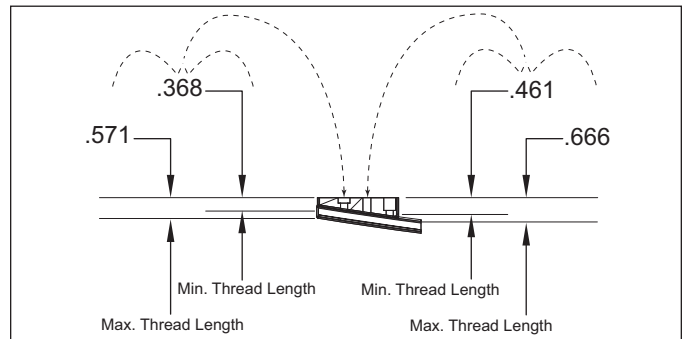

Figure 8. Decorative Panel Prep for Handle
2. The handle mounting holes should be counter bored (5/8" diameter to 5/32") so that when an appropriate length #8-32 bolt and washer are put in the hole, there will be a proper amount of thread visible on the face side of the panel to hold the handle without causing damage (See Figures 8 or 10) for the visible thread requirements).